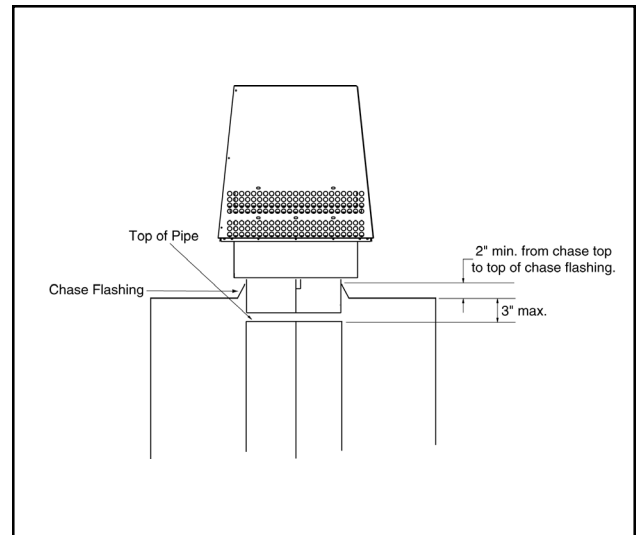

**Figure 23 - Installing a TR342 Round Telescoping Termination Cap**
- For installations utilizing a TR342 telescoping round termination cap, the uppermost chimney section must be below the top of the chase top, but not more than 14½" below the top of the chase top flashing collar. See Figure 23.